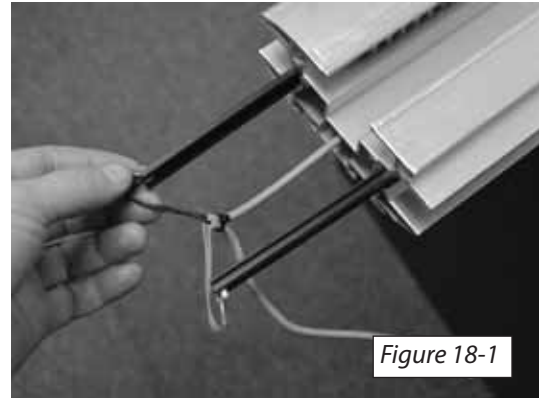

Figure 18-1
**1.** Carefully re-insert the charging strips back into the rail. [Figure 18-1]